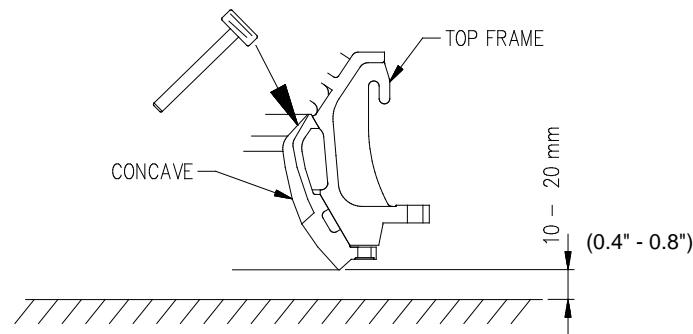

Fig. 6.3.3
3. Disconnect the concave mounting bolts and lift the top frame slowly upwards. The concave should remain on the wooden blocks. If the concave remains fast, lift the top frame above the blocks by about 0.4" - 0.8" and strike the concave with a large hammer. (Fig. 6.3.3)